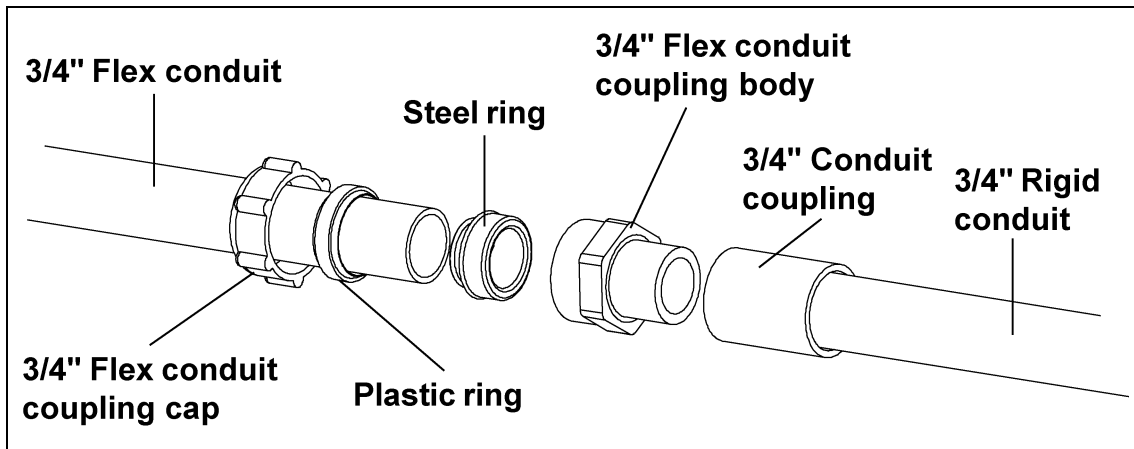

Figure 5AB
4. Thread a steel ring into the 3/4" flex conduit. (See Figure 5AB.)
5. Thread the 3/4" flex conduit coupling cap onto the 3/4" flex conduit coupling body. (See Figure 5AB.)
- D. Attach the 3/4" x 12" liquid-tight flex conduit to the other end of the rigid conduit using one 3/4" conduit coupling and one 3/4" liquid-tight flex conduit coupling. (See Figure 5AC.)